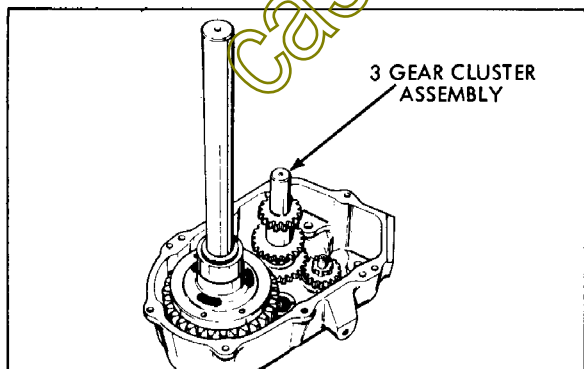

Figure 2-8
9. Lift out the three gear cluster. (Fig. 2-8)